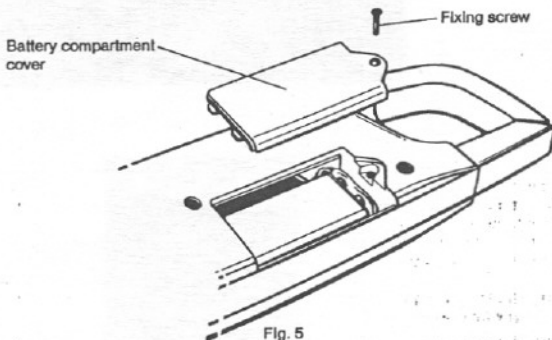

Fig. 5
- (1) The battery is installed inside the case.
- (2) Remove the screw on the back of the battery cover for battery replacement (Fig. 5).